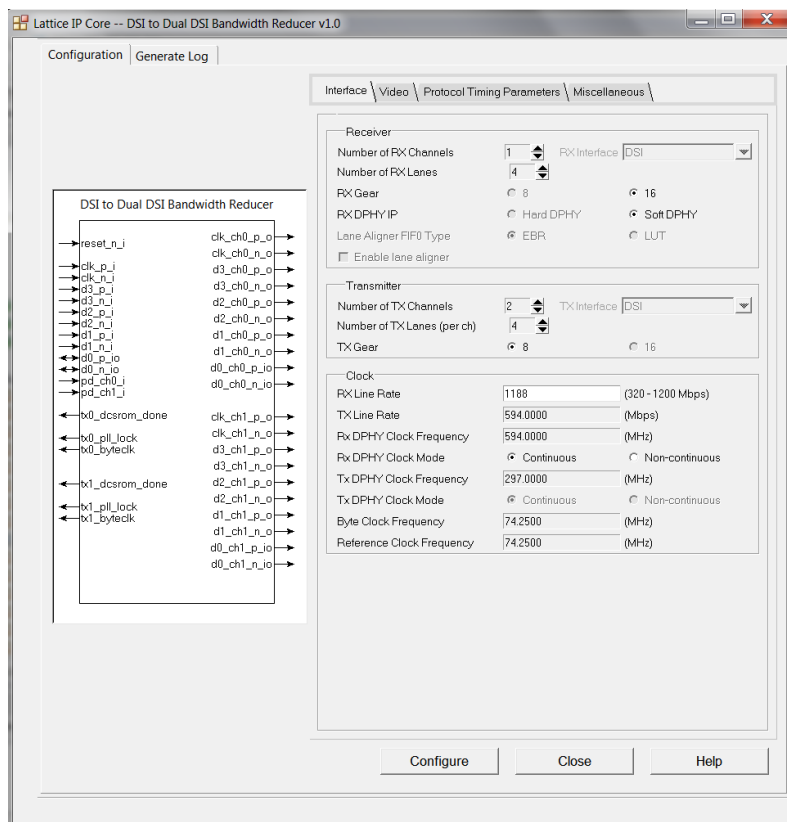
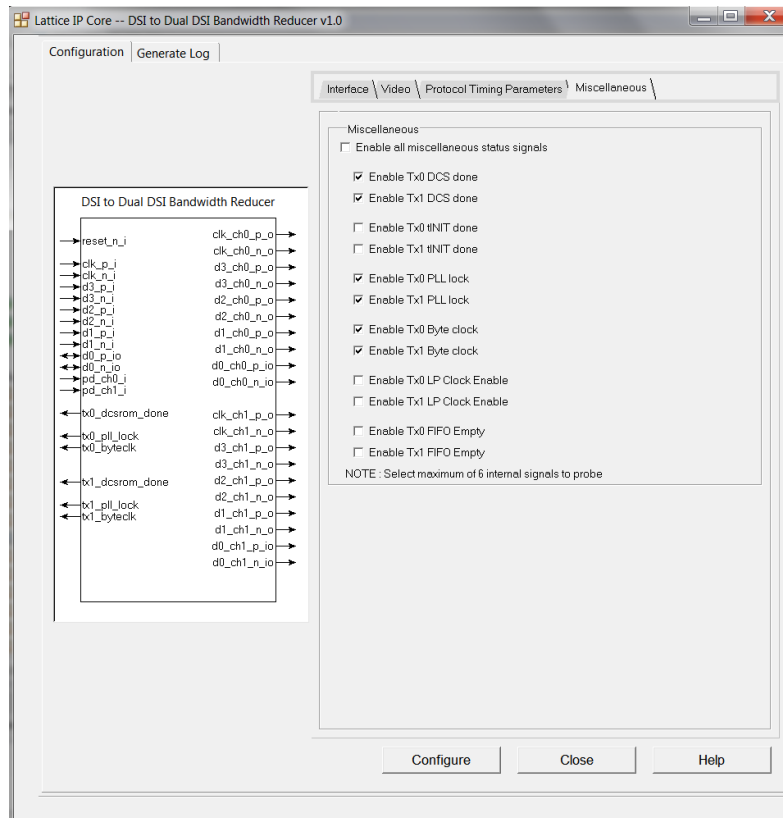

Figure 4.4. Configuration Tab in IP Interface
Figure 4.7. Miscellaneous Tab in IP Interface
3. Click the **Customize** button. An IP configuration user interface is displayed as shown in Figure 4.4 to Figure 4.7. From this dialog box, you can select the IP parameter options specific to your application.